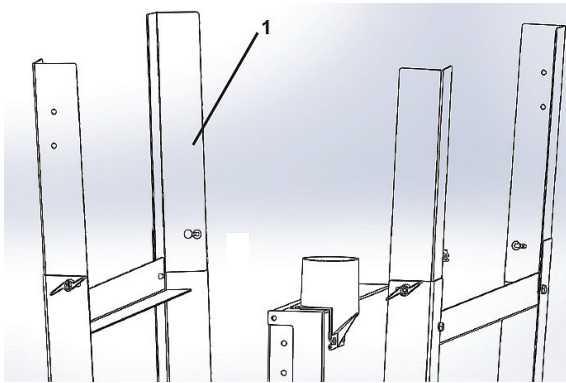

Fig. 4: Mount frame
Step 2: Fold out the feet (Pos.1, Fig. 4) at the front and rear and clamp them firmly..